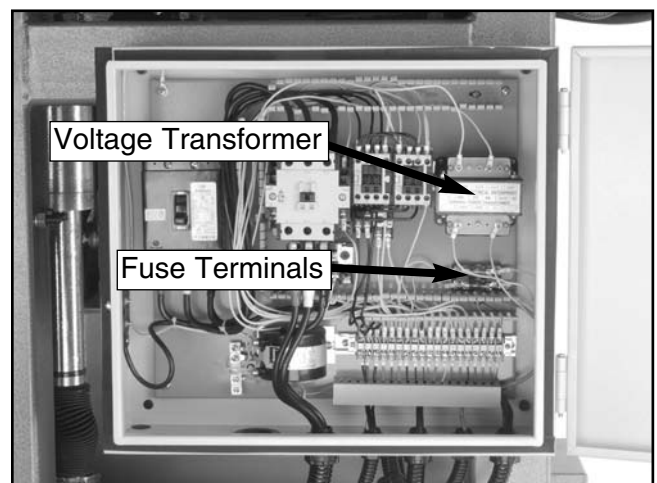

Figure 3. Inside of electrical box.
2. Open the electrical box and locate the voltage transformer and the fuse terminals shown in **Figure 3**.